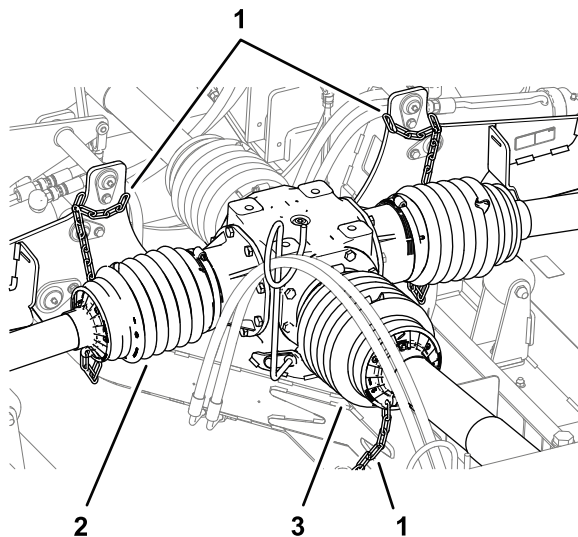
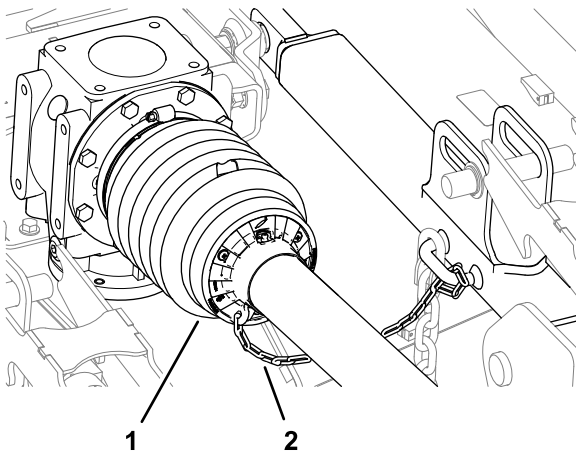

Figure 14
Figure 15
6. Check that the restraint chain is connected to the rear PTO shaft guard, drive shaft guards, and the frame of the mower (Figure 14 and Figure 15).